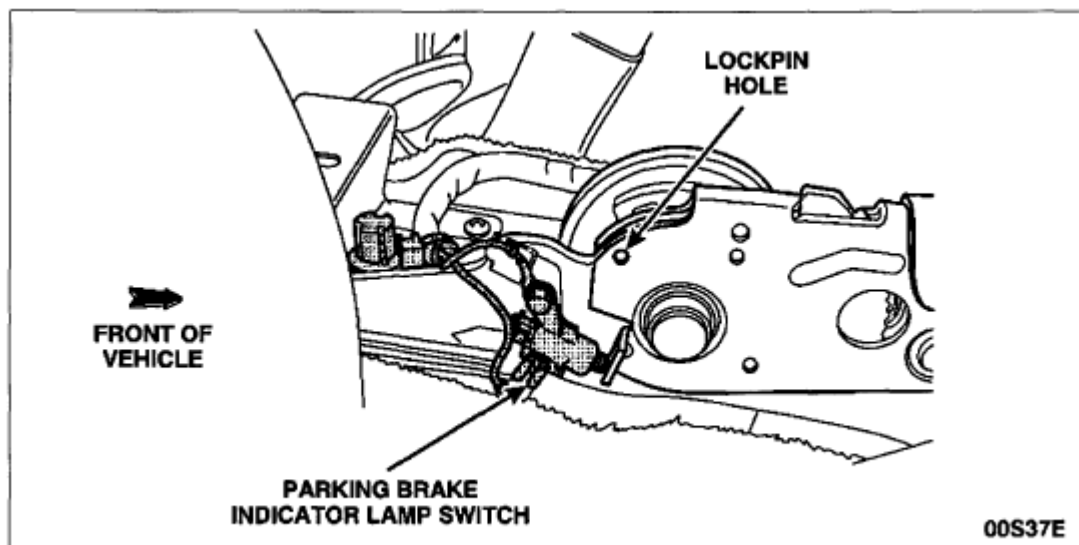

FIGURE 5
9. Lower the parking brake handle back down, then disconnect and remove the parking brake indicator lamp switch. See Figure 5.
11. Release cable tension by pulling the control assembly forward far enough to rotate the self-adjuster reel while an assistant inserts a suitable steel lockpin through the hole in the lever and behind the cam on the sector gear. See Figures 5 and 6. This locks the sector gear in the "cable-released" position.